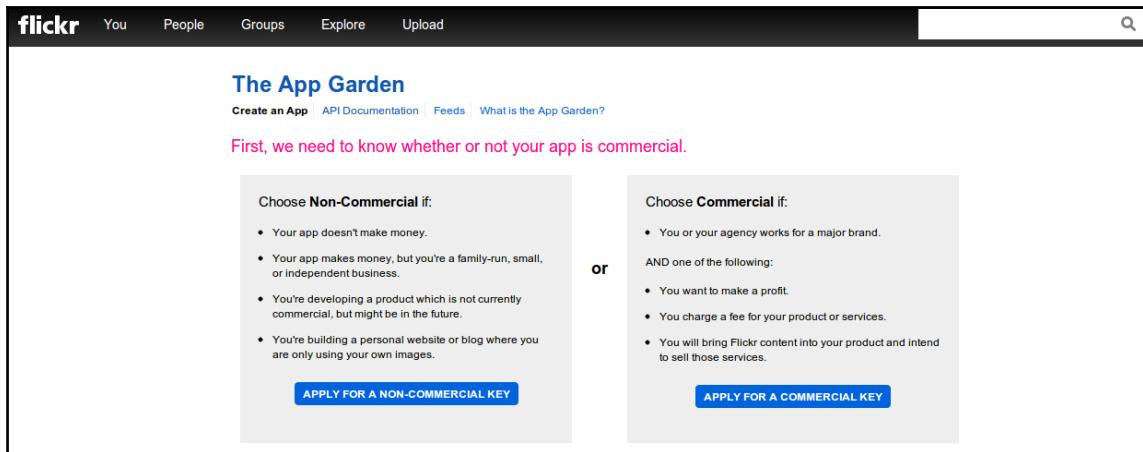

Figure 3-12: Choosing non-commercial key option
4. Click on the **APPLY FOR A NON-COMMERCIAL KEY** button to choose the non-commercial key option, because we're going to use the app only for personal use (Figure 3-12):